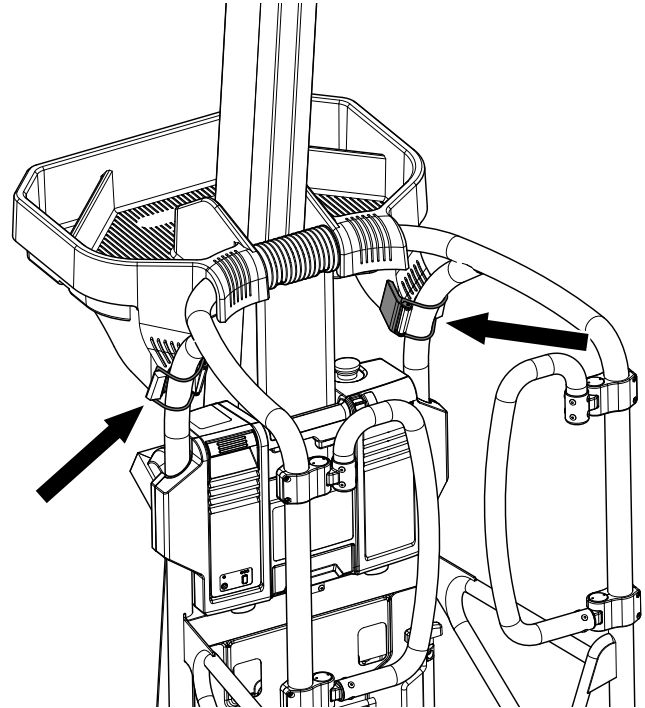

Figure 2-9. Tool tray installation
- Both of the clips are securely attached to the platform rail (Figure 2-9.).
Place on top rail of platform, and fasten the two clips firmly around the rail (see Figure 2-9.).